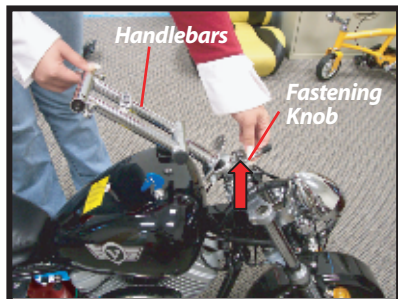

Fig. 1
2. Lift the handlebar assembly to an upright position and tighten the fastening knob so that it secure. (Fig. 1)